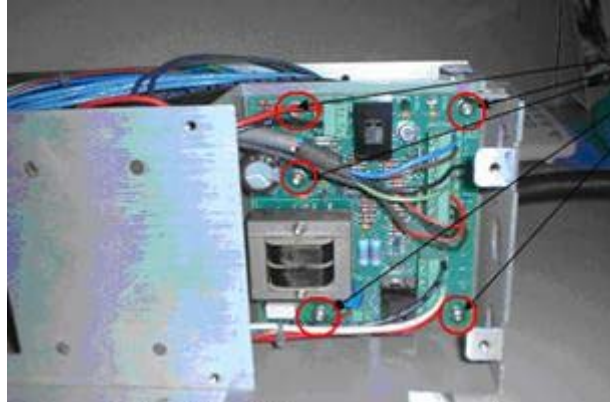

Fig 10
11. Remove the five M4 Torx screws holding the E1135-66501 control board to the PDU using a T20 Torx driver. (Fig 10)